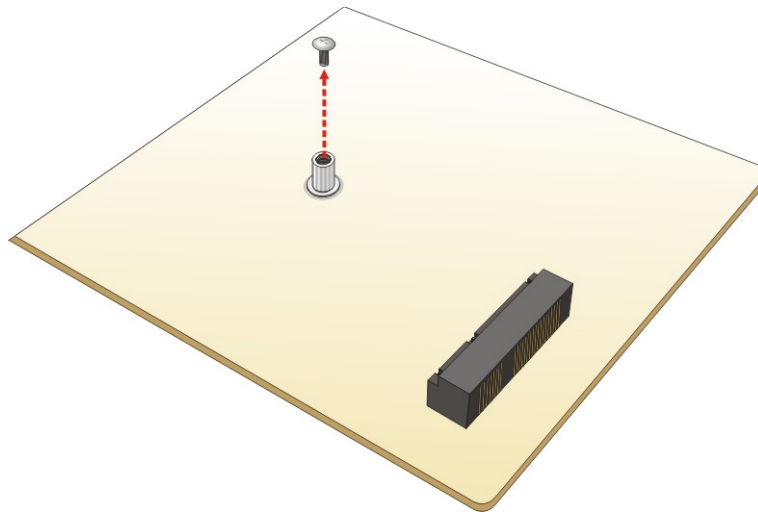

Figure 4-9: Removing the Retention Screw for the mSATA Module
Step 2: Remove the retention screw. Remove the retention screw secured on the motherboard as shown in Figure 4-9.